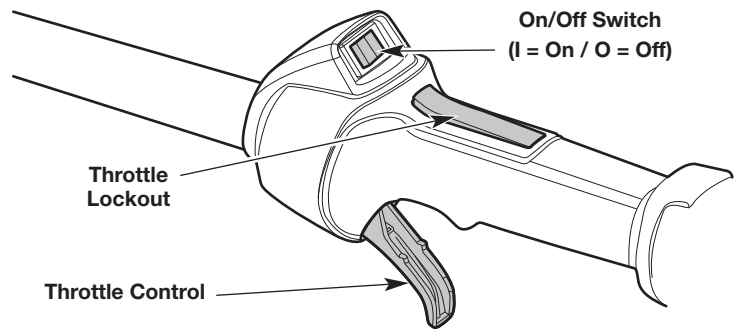

Fig. 11
NOTE: There is no need to turn the unit on. The On/Off switch is in the **On (I)** position at all times (Fig. 11).
NOTE: DO NOT squeeze the throttle control (Fig. 11) until step 6.
6. Press and hold the throttle lockout (Fig. 11). Squeeze the throttle control as needed for operation (Fig. 11).
2. Press and hold the On/Off switch in the **Off (O)** position until the engine comes to a complete stop (Fig. 11).
NOTE: DO NOT squeeze the throttle control (Fig. 11) until step 8.
8. Press and hold the throttle lockout (Fig. 11). Squeeze the throttle control as needed for operation (Fig. 11).